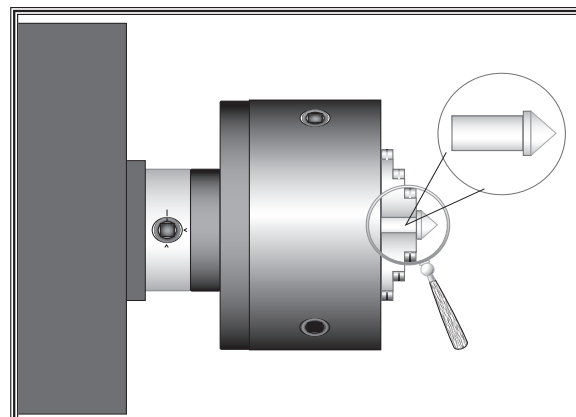

Figure 20. Tailstock centering dead center.
3. Using the other piece of stock, make a dead center by turning a shoulder to make a shank. Flip the piece over in the chuck and turn a 60° point (see Figure 20).